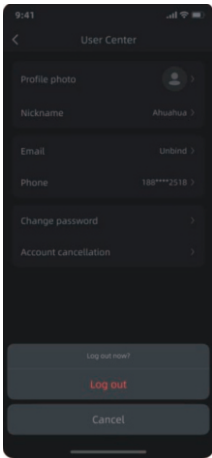

Figure 12
- 12) Figure 12: Click "**Log out**" to return to the login page;Click "**Cancel**" to keep the current login status.